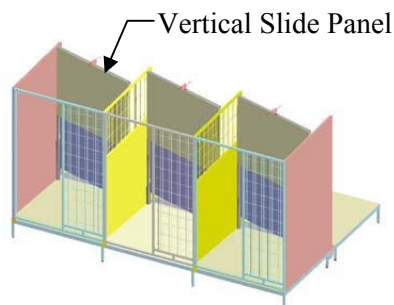

Figure 20
5. Locate the Vertical Slide Panels and place them inside the kennels you have already half way assembled as shown in (**Figure 20**).